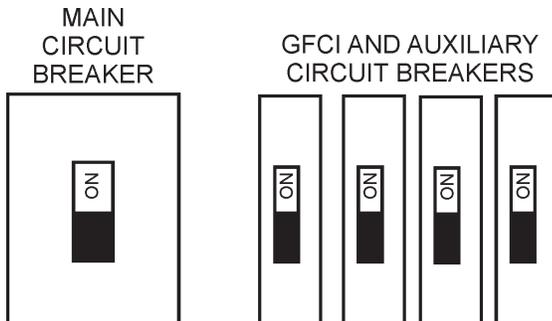

Figure 27. Main, GFCI, and Aux. Circuit Breakers (ON)
7. Place the **main**, **GFCI**, and **aux.** (Figure 27) circuit breakers on the control panel in the **ON** position.